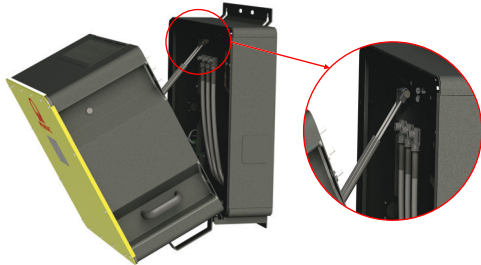

Fig. 17: Hooking hydraulic rod in the recess of the ConnectionBox when mounted vertically
3. One person should hold the PowerUnit in place while the 2nd person should hook the hydraulic rod into the slot in the ConnectionBox (see figure 17).